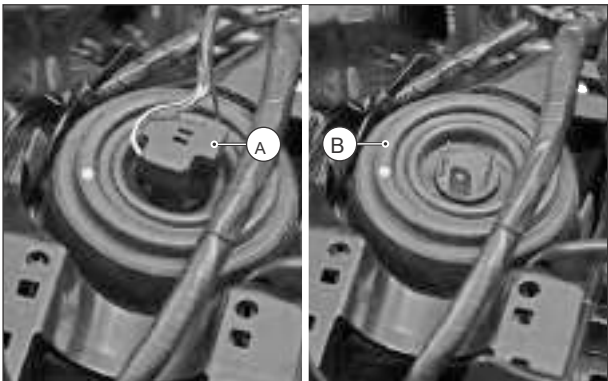

Fig. 5.49
Pullout the socket head lamp (A) from head lamp bulb and dislocate the dust cap (B) of head lamp assembly. (Fig. 5.49)